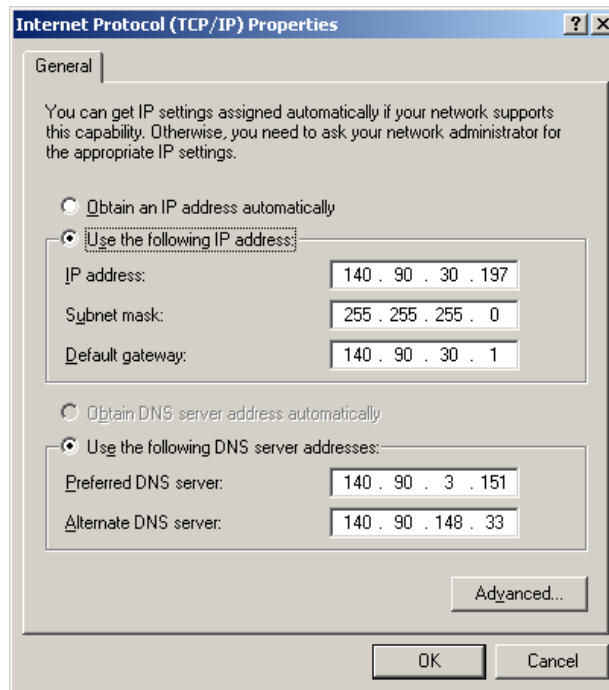

Figure B-10: Internet Protocol (TCP/IP) Properties Window (Example Only)
7. Select **Internet Protocol (TCP/IP)** from the list, and then click **Properties**. The *Internet Protocol (TCP/IP) Properties* window will display (Figure B-10).